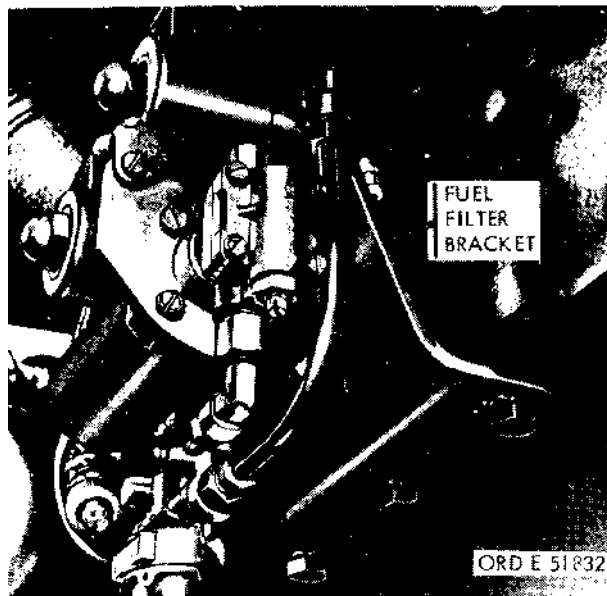

Figure 2-111. Removing manifold heater fuel filter—multifuel models.
(2) Remove the screws and lockwashers securing the filter to the bracket (fig. 2-111).
(3) Remove the ground wire and fuel filter.
(1) Secure the ground wire and filter to the bracket with lockwashers and screws (fig. 2-111).